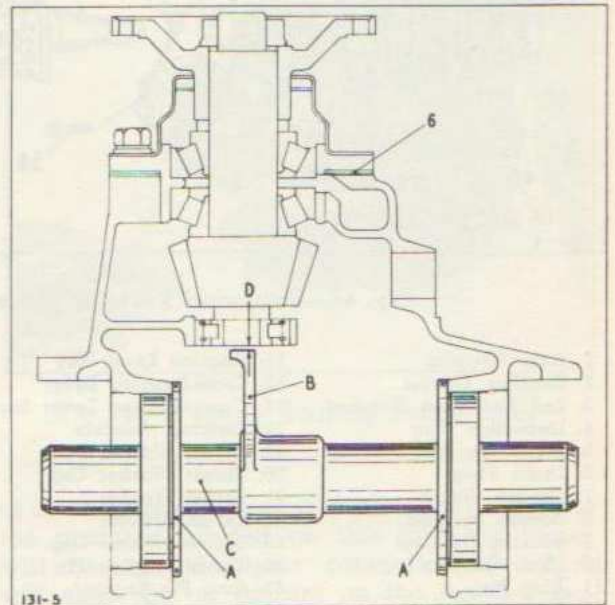

Fig. 43—Adjusting Pinion Gear with Gage
Note: The specific mounting distance, from centerline of ring gear to end face of pinion gear, which was used in manufacture when cutting the teeth of pinion gear, is etched on its end face. The pinion gear should be set in service to this same distance by using gage tool shown in Figure 43. It consists of two plugs (A) and a gage arm (B) assembled on a tube (C). When gage arm (B) is slid along tube until opposite pinion gear face, the gap between arm and pinion gear, when measured with feeler gage, should equal the difference between the dimension etched on pinion gear face and dimension stamped on gage arm.
Then slide gage arm (B) along tube until opposite pinion gear face, and insert feeler gage between arm and pinion face to measure actual gap (D). (See Figure 43).